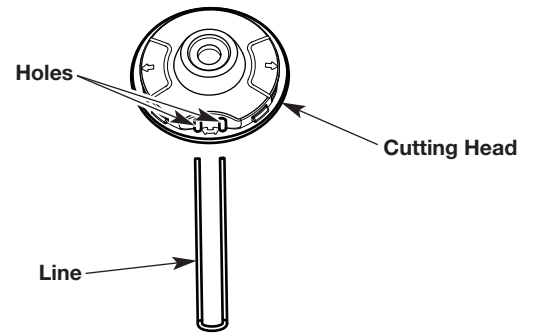
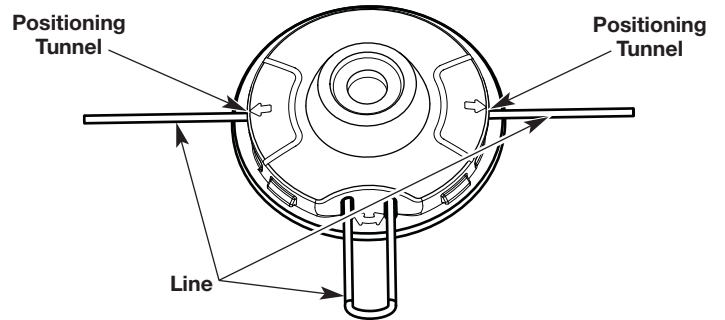

Fig. 7
Fig. 8
3. Insert the ends of the line through the circular holes in the side of the cutting head (Fig. 7). Push the line through the holes until both ends protrude from the positioning tunnels (Fig. 8).